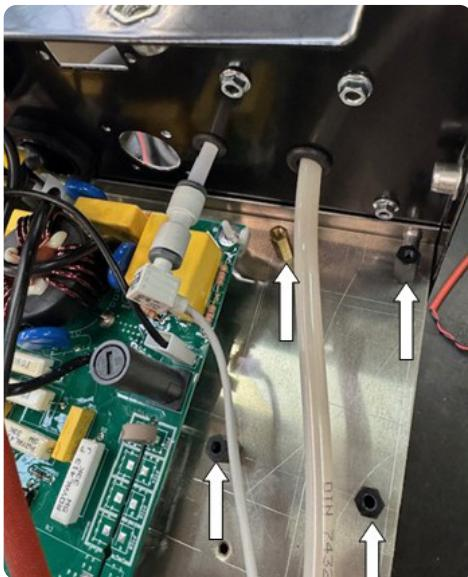

Fig. 1
- ◆ Using the 4 M4 screws supplied, fix the 3 plastic spacers and the brass one inside the rear panel, positioning the latter in correspondence with hole (fig.1)